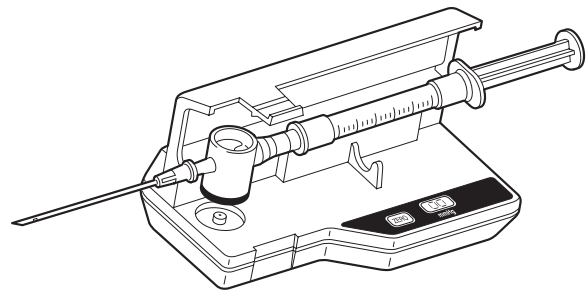

Figure 2
6. Place the chamber into the transducer well with the black surface facing down. Gently push until the disposable seats. See Figure 2.